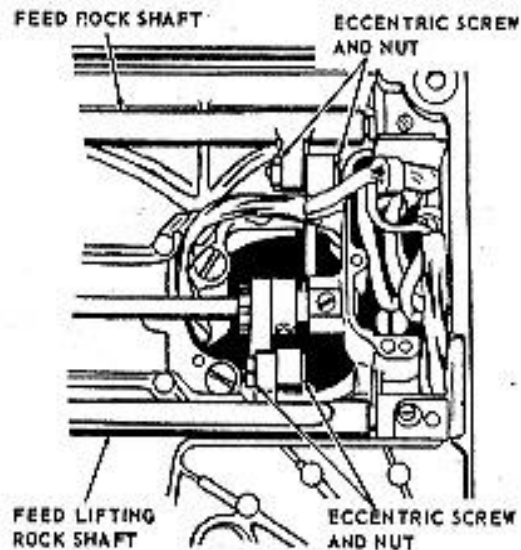

Fig. 45. Removing Feed Connecting Rod and Feed Fork
4. Remove eccentric screw and nut, Fig. 45, disengaging connecting rod from feed lifting rock shaft
3. Replace eccentric screw and nut, Fig. 45, engaging connecting rod to feed lifting rock shaft.
3. Remove eccentric screw and nut, Fig. 45, disengaging feed forked connection from feed rock shaft.
2. Replace eccentric screw and nut, fig. 45, engaging feed forked connection to feed rock shaft.